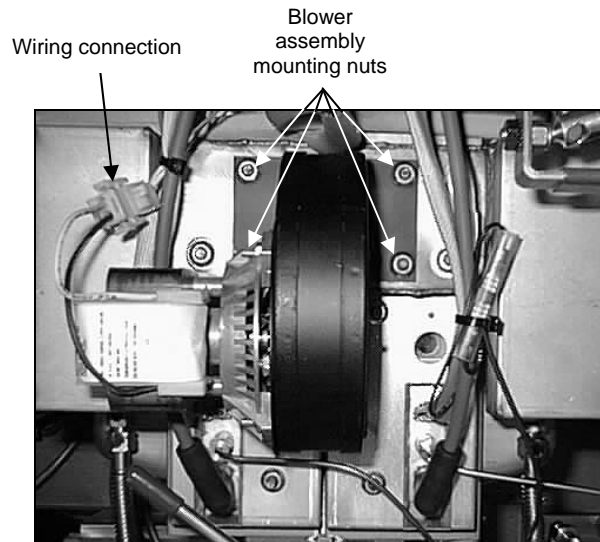

Figure 1
1. Disconnect the blower wiring harness and remove the four blower mounting nuts (see Figure 1 below). In some positions, the module may need to be removed prior to removing the blower.